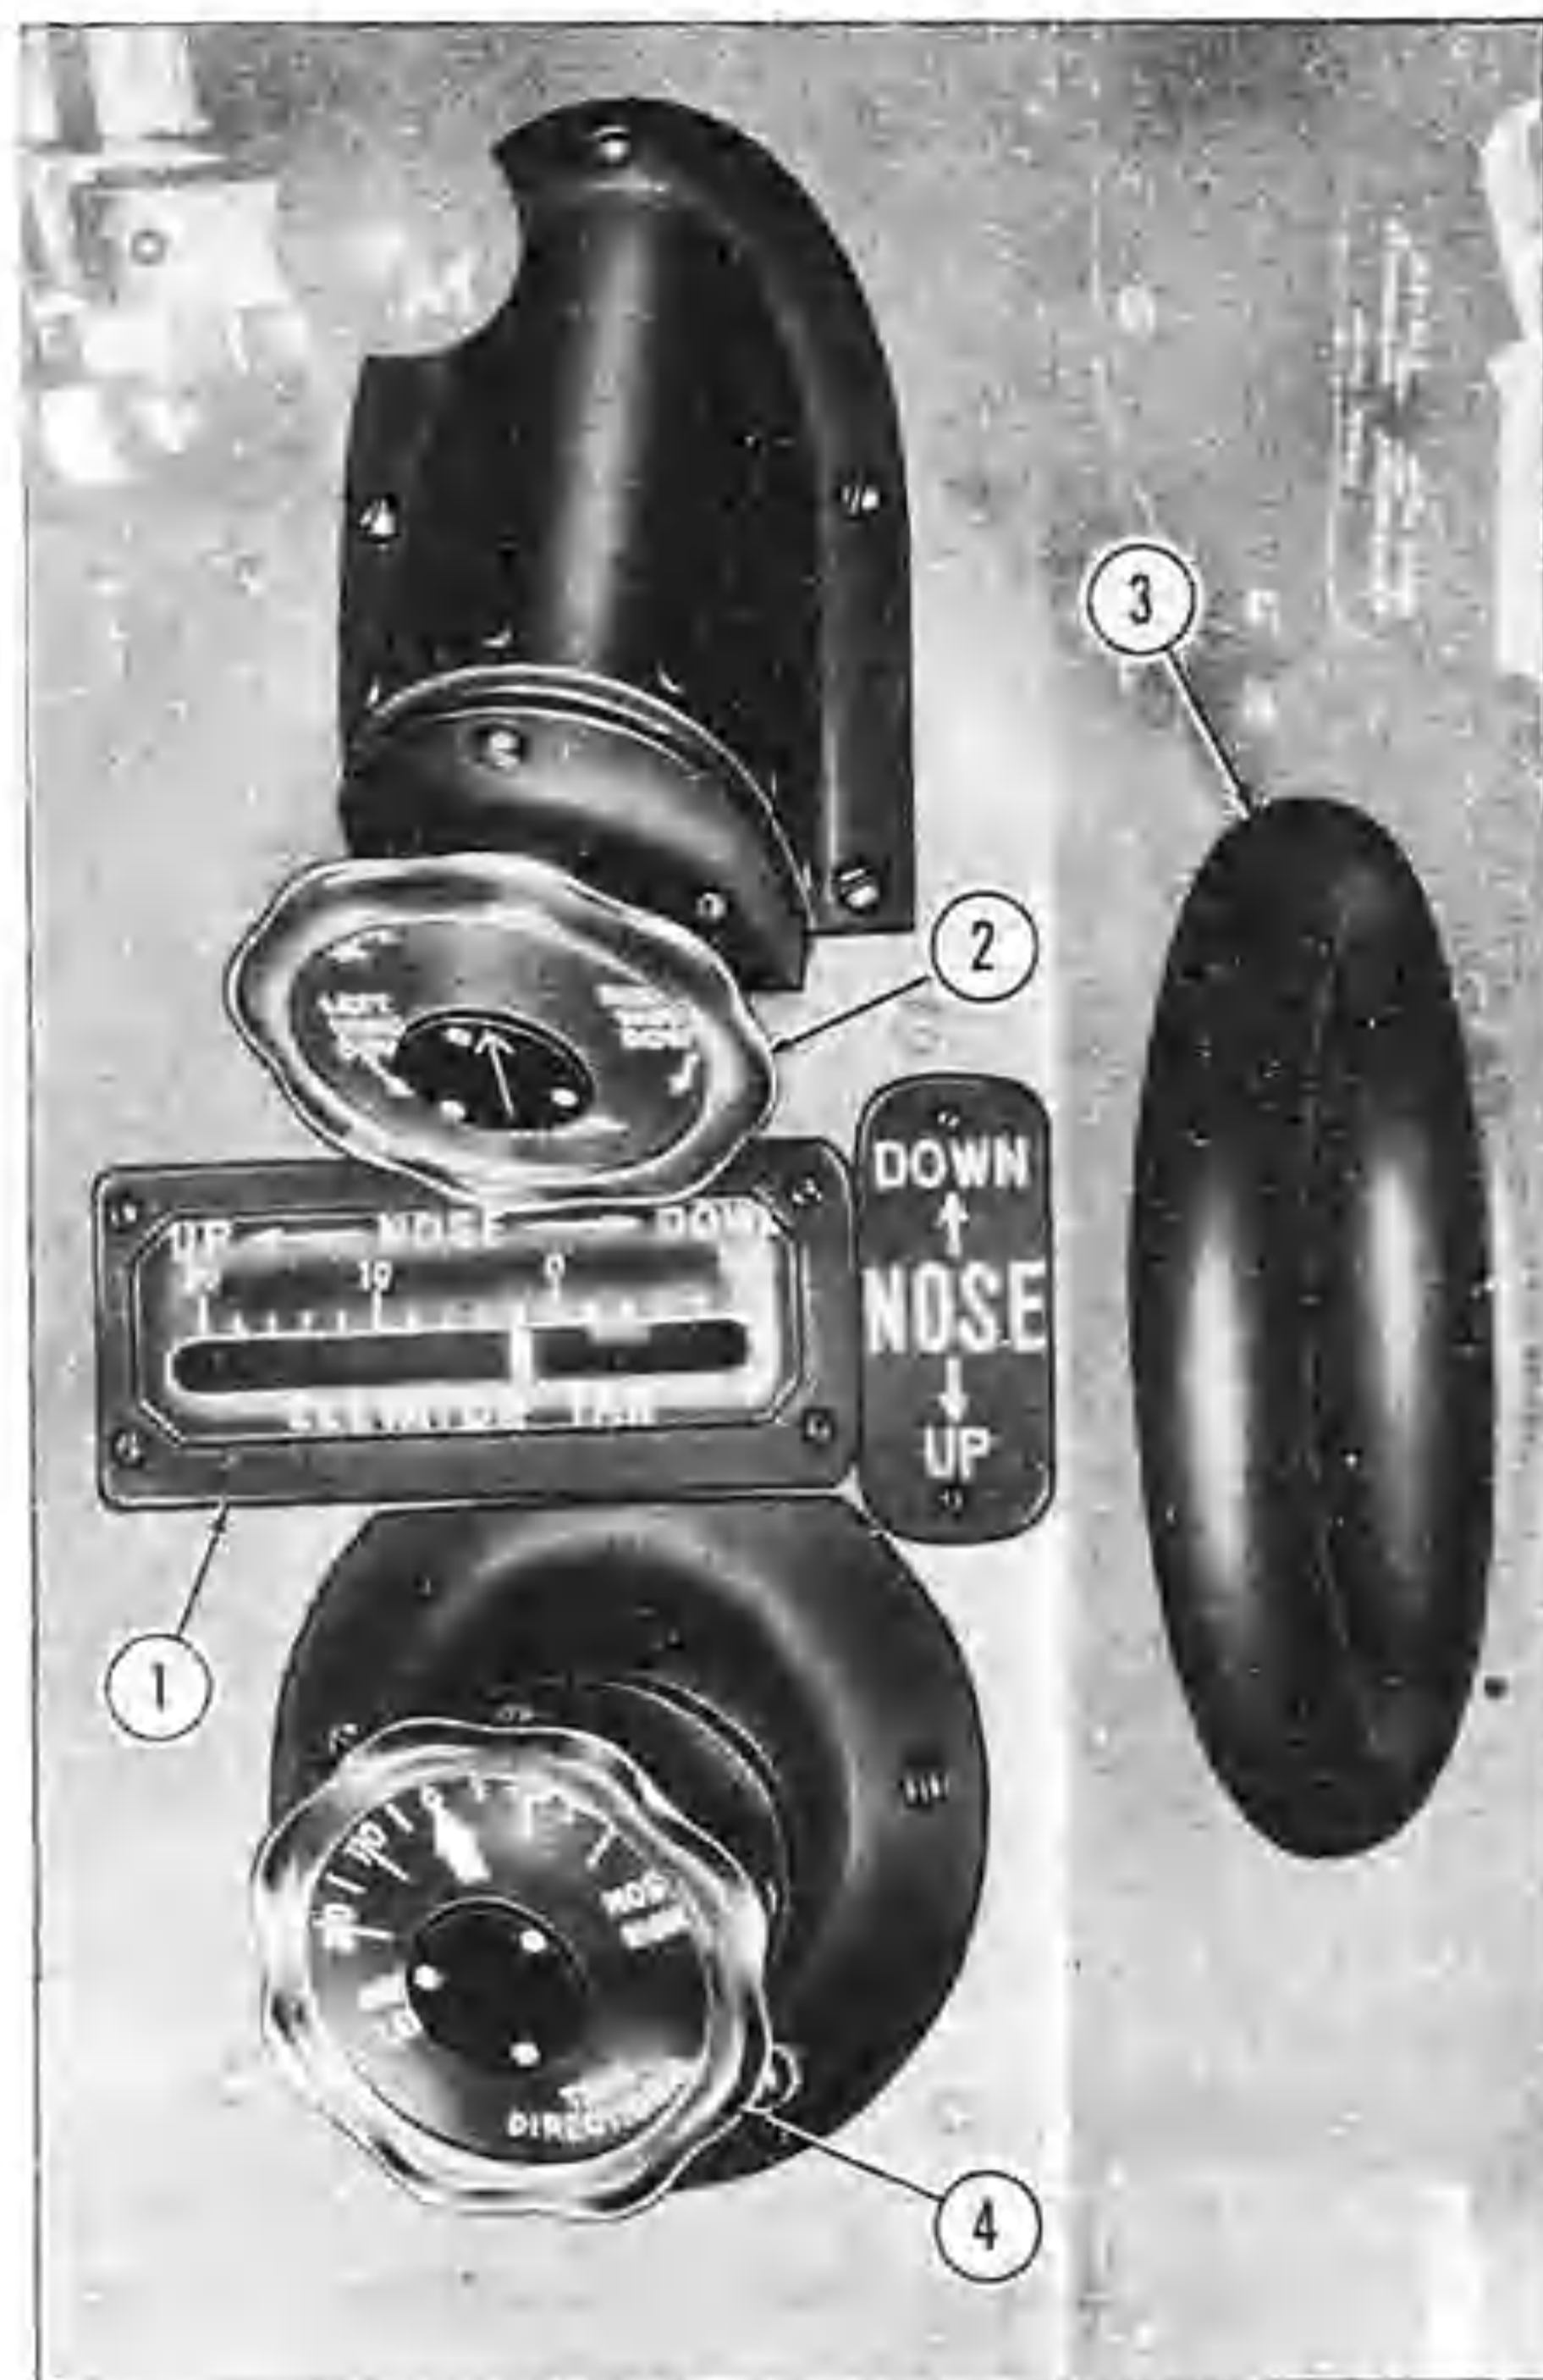

Figure 27 — Trim Controls
- (11) Rudder tab control — six degrees **NOSE RIGHT**. (See 4, figure 27.)
- (12) Aileron tab control — four degrees **RIGHT-WING DOWN**. (See 2, figure 27.)
- (13) Elevator tab control — one degree **NOSE UP**. (See 1 and 3, figure 27.) (Refer also to Minimum run Take-off, paragraph d below.)
- (14) Alternate air control—**DIRECT AIR**.
(3) Manifold pressure — 52 inches.
(4) Elevator tabs — three to four degrees **NOSE UP.** (See 1 and 3, figure 27.)
(5) Hold the brakes slightly until the tail starts to rise.
(6) Release the brakes and let the tail rise to near level flight attitude (tail high).
(7) Take-off when minimum flying speed is reached. This speed will be between about 72 knots indicated and about 85 knots indicated, depending on the gross weight of the plane. (The lower speed is for a 12,000 pound plane with no bombs and with an absolute minimum of fuel, while the higher speed is for the 16,000 pound loading which includes 598 U.S. (499 Imp.) gallons of fuel.)
(8) The nose will be slightly heavy at take-off. If the take-off is made from an unpaved or muddy runway, the tail should be held slightly lower than indicated above.